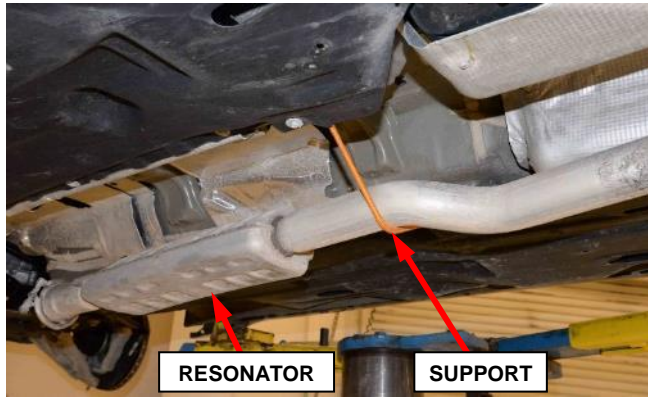

Figure 38 – Support Exhaust
e. Support the exhaust system resonator (Figure 38).